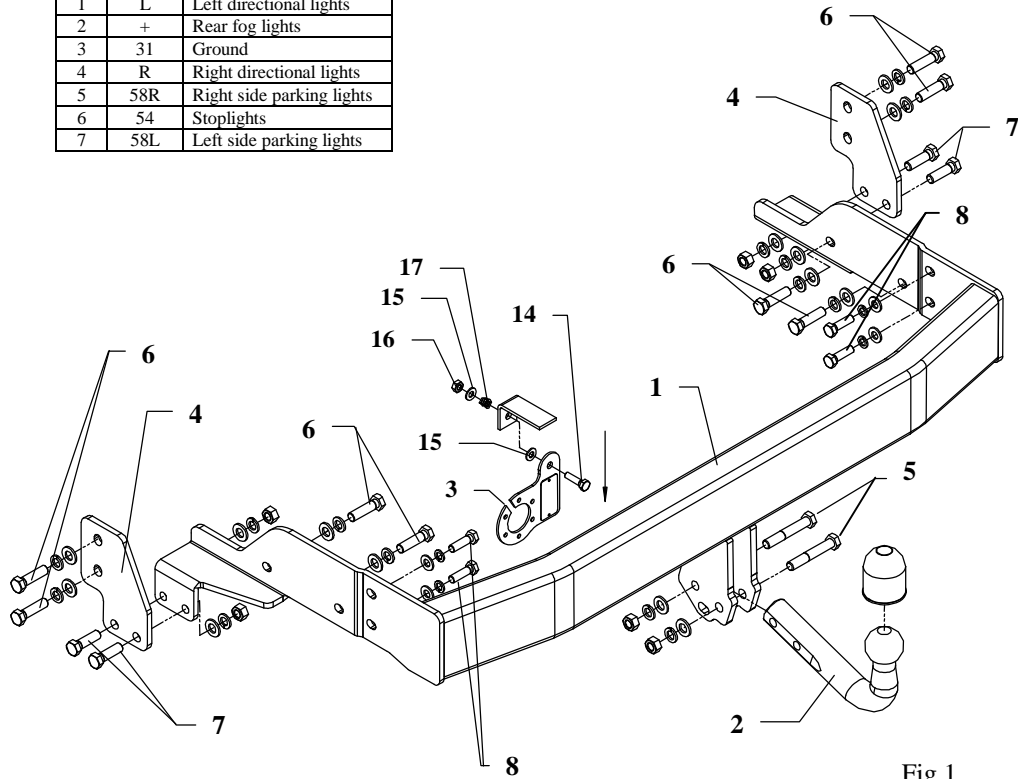
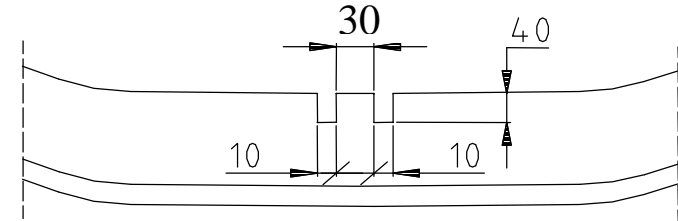

Fig.1
Fig. 2
4. Put main bar (pos. 1) to frame of car in this way, so holes in towbar agree to original holes and fix all using bolts M12x45mm (pos. 6) and M10x1,25x35mm (pos. 8) – see figure 1.
5. Fish-plates pos. 4 put as shown in the figure and fix using bolts M12x45mm (pos. 6) and bolts M12x40mm (pos. 7).
6. Assemble bumper after cut out his fragment – see fig. 2.